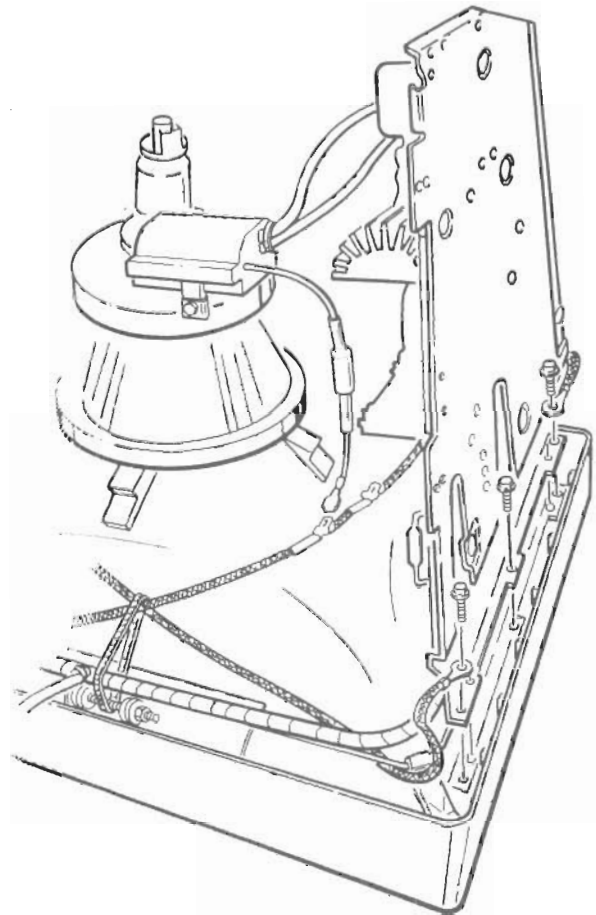

Figure 3-9. Deflection Board Assembly Removal
7. Refer to Figure 3-9 and remove the three hex screws that secure the deflection board assembly to the bezel. Note the locations of the ground braid terminals.